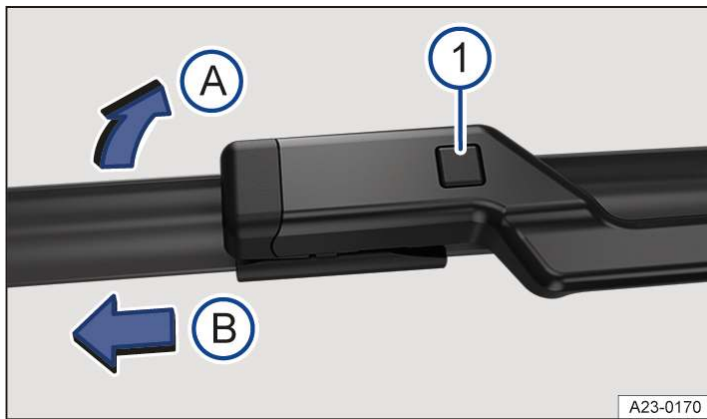

Fig. 1 Changing the windscreen wiper blades.
- ① Release button for the wiper blade.
3. Press and hold the release button → Fig. 1 ①.
4. Tilt the wiper blade in the direction of the wiper arm → Fig. 1 ① A and pull it off in the direction of the arrow ① B at the same time. You may need to use some force to do this.
5. Insert a new wiper blade with the same length and design onto the wiper arm against the direction of the arrow. Push it on until it engages → Fig. 1 ① B. The wiper blade must be in folded-down position to do this → Fig. 1 ① A.